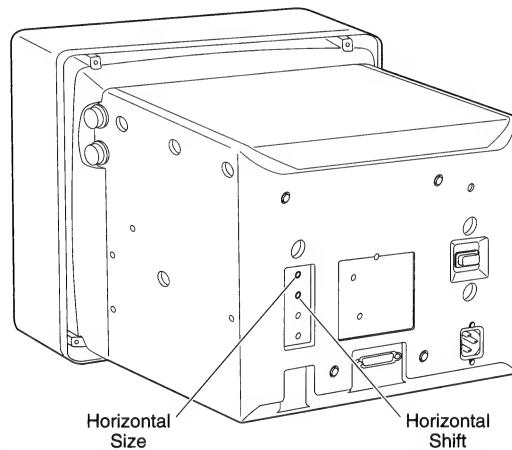

Figure 4 Horizontal Size and Shift Adjustments
5. FIGURE 4. Using the plastic alignment tool, turn the Horizontal Size control until the raster is 15 inches wide.
10. FIGURE 4. Adjust the Horizontal Shift control to center the raster on the monitor screen.